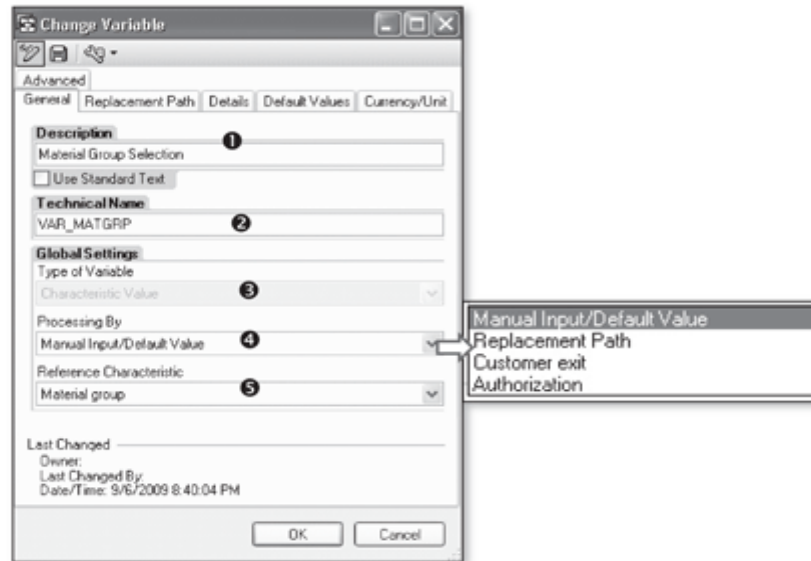

Figure 9.26 Maintain the General Tab for VAR_MATGRP
Maintain the Description and Technical Name of the variable as shown in ❶ and ❷ of Figure 9.26.
The Type of Variable (❸ of Figure 9.26) is already determined by the editor based on the element from which the variable editor is called. In this case, the editor is called from a characteristic; so the variable type is prepopulated as a characteristic value.